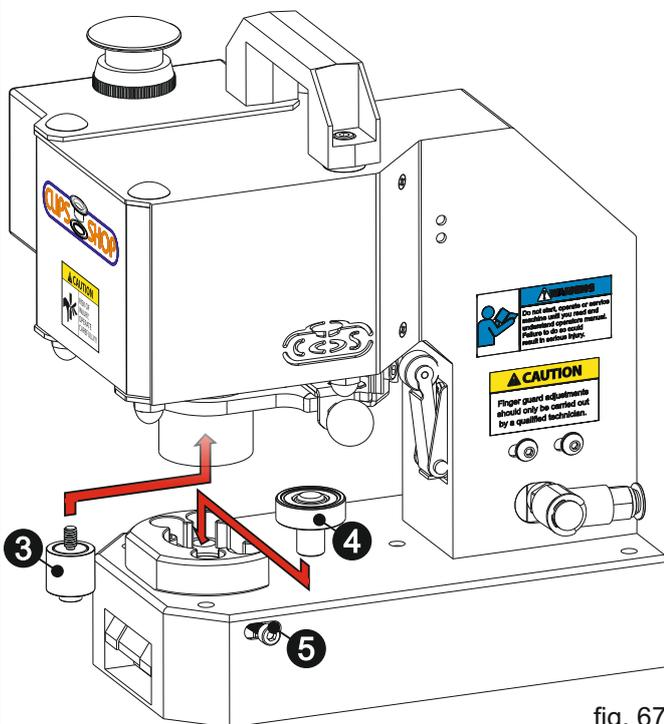

fig. 67
Insert the upper die ③ to the die adaptor/shaft by rotating manually or with a suitable wrench as shown in (fig. 67). Insert the lower die ④ into the lower die holder and secure its position by tightening the screw ⑤ with a screwdriver.